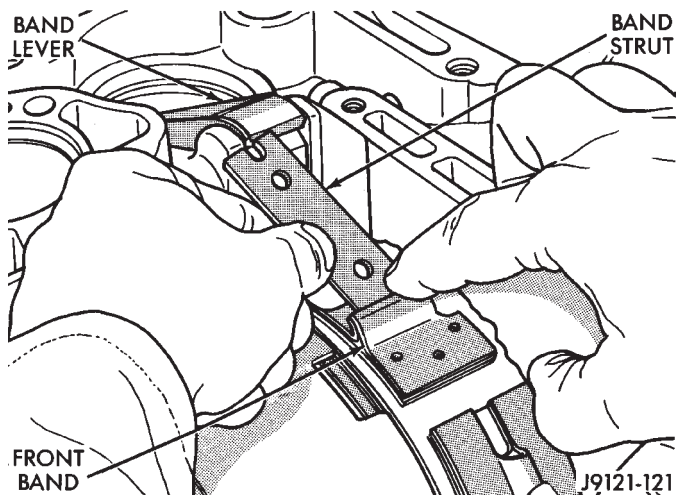

Fig. 15 Removing/Installing Front Band Strut
(24) Squeeze front band together and remove band strut (Fig. 15).